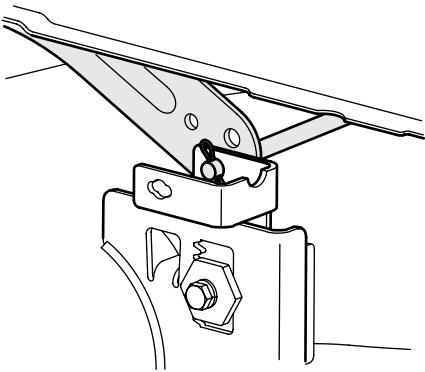

Figure 4-12
5. Looking at the cutting deck from the left side of the rider, locate the bow-tie pin that secures the deck support rod on the rear left side of the deck. See Figure 4-12. Remove the bow-tie pin that secures the deck support rod, and carefully remove the deck support from the deck lift arm.